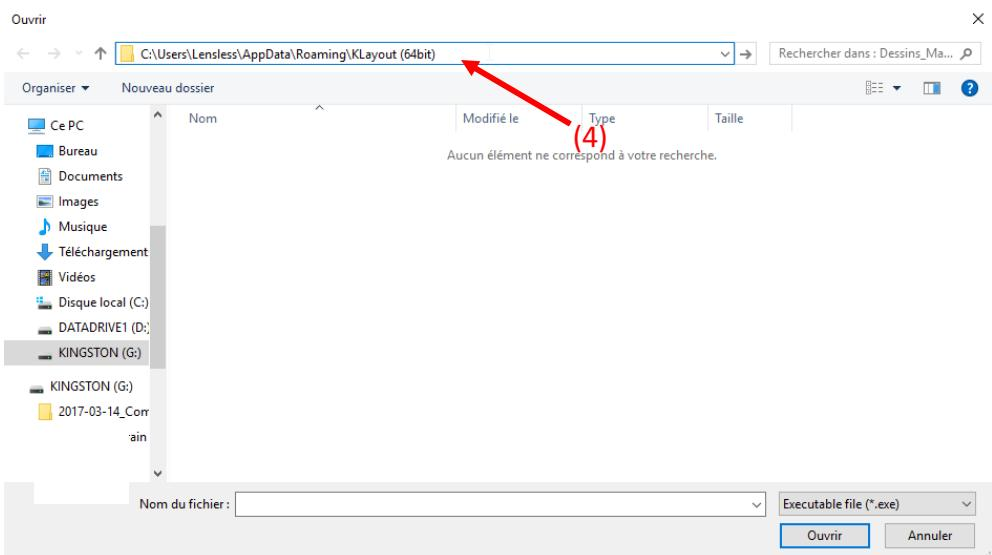

Figure 74 - Finding the file path of KLayout executable file, step (4)
- Paste (Ctrl-V) the file path into the address bar of the window opened by clicking on **SFTprint** → **Settings** → **Importation** → **Define klayout_app.exe filepath...** (Figure 74(4)) and press enter. Finally select klayout_app.exe and click on **Open**